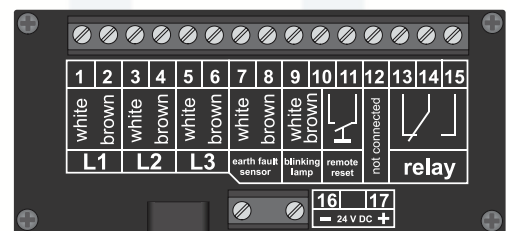

figure 1 - Connectors one relay version
- Connector 13 - 15: SCADA change-over contact (please refer to figure 1)